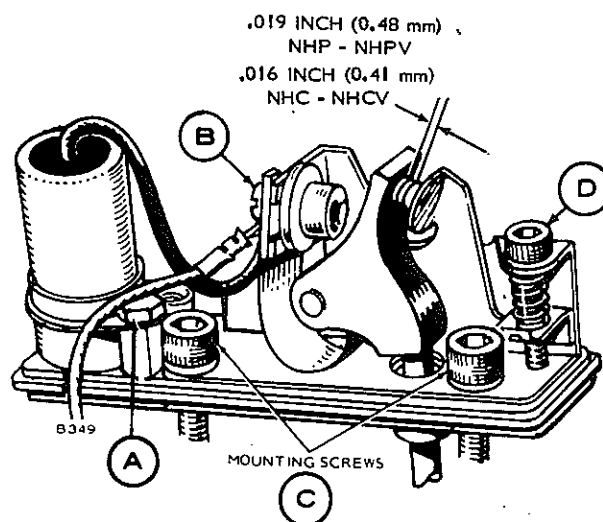

FIGURE 10-38. BREAKER POINT ADJUSTMENT
3. Remove condenser (screw A) and detach condenser lead and coil lead (screw B), Figure 10-38.
4. Remove two Allen screws (C) and lift breaker assembly from engine.
6. Using Allen wrench at screw (D) adjust point gap at .016 inch (0.41 mm) using a clean, flat thickness gauge.